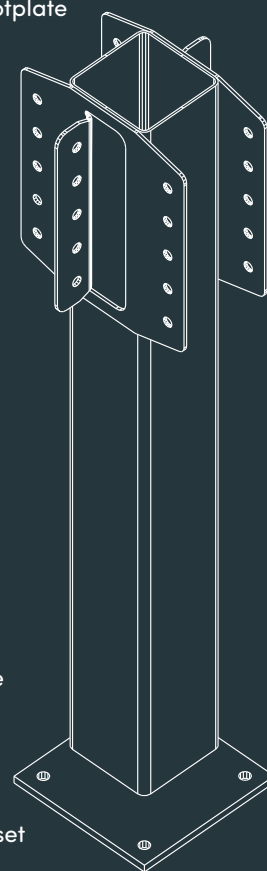

Fig. 2 - Offset footplate
- In standard configuration, the footplates are welded to the centre of the uprights. However, for better adaptation to the environment, such as a mezzanine against a wall, they can be installed off-centre (Fig. 2). This option only applies to the 200 x 200 mm cross-section.